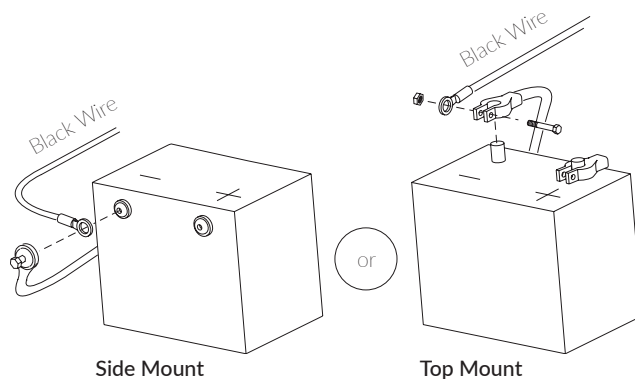

Figure 4-2
2. Start routing the wiring harness at the vehicle's battery. Join the black wire to the negative terminal on the battery. DO NOT attach the red wire until the very end of the installation process. **See Figure 4-2.**